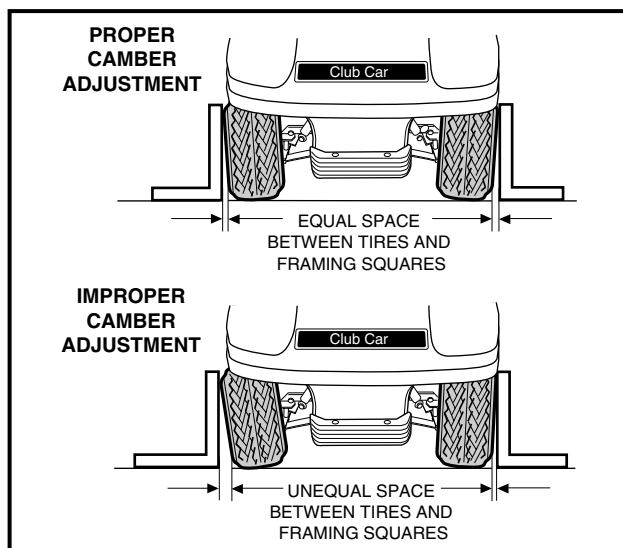

Figure 7-16 Check Camber
1. Check each front wheel with a framing square. At the floor (or ground), there should be an equal amount of space between each tire and the framing square (**Figure 7-16, Page 7-15**).
- After adjusting camber, tighten the four spring retaining bolts (30) (**Figure 7-21, Page 7-19**) to 23 ft-lb (31 N·m). Then roll the vehicle forward one full tire revolution and recheck the camber. **See also Figure 7-16, Page 7-15.**